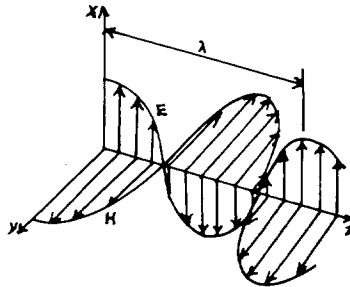

FIGURE 4-1
In order to fully understand the operation of an ADF system, it is advantageous to first examine the radio wave which induces the signals in an ADF antenna system. A radio wave consists of two electromagnetic field components; an electric field (E) and a magnetic field (H). These fields are perpendicular in space and their amplitudes vary sinusoidally with time. A simplified illustration of a plane electromagnetic wave is shown in Figure 4-1. Stations which broadcast in the ADF band (200KHz - 1799KHz) transmit vertically polarized radio waves, meaning that the E field is vertical in space, while the H field is horizontal.